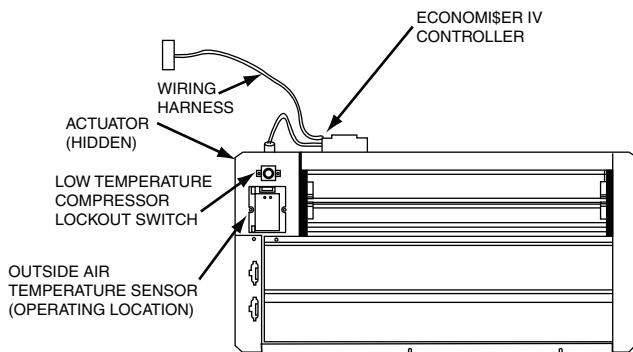

Fig. 1 — EconoMi\$er IV Component Locations
4. Use the 2 sheet metal screws (no. 8) from Step 3 to mount the enthalpy sensor on the front left of the economizer frame. (See Fig. 1.) Use the 2 screw holes in the economizer frame.